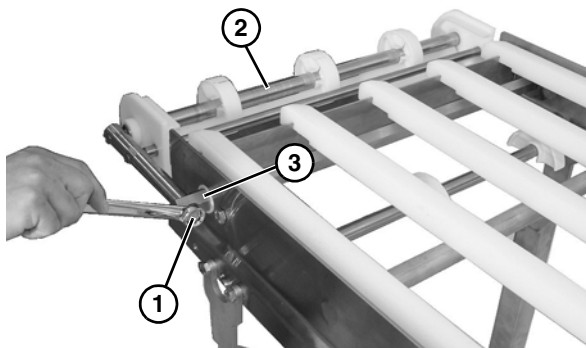

Figure 59
- Remove bolt (**Figure 59, item 1**) from each side, and remove idler tail assembly (**Figure 59, item 2**) from take up blocks (**Figure 59, item 3**).